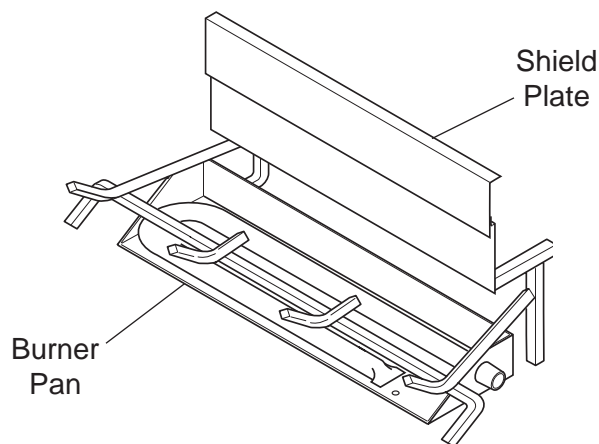

Figure 11 - Sliding Shield Plate Down Back of Burner Pan
1. Slide shield plate down back of burner pan. *See Figure 11.*